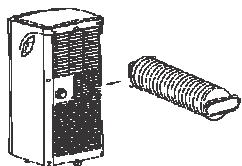

Fig. 18
2. Push the Exhaust hose into the airoutlet opening along the arrow direction(See Fig.18).